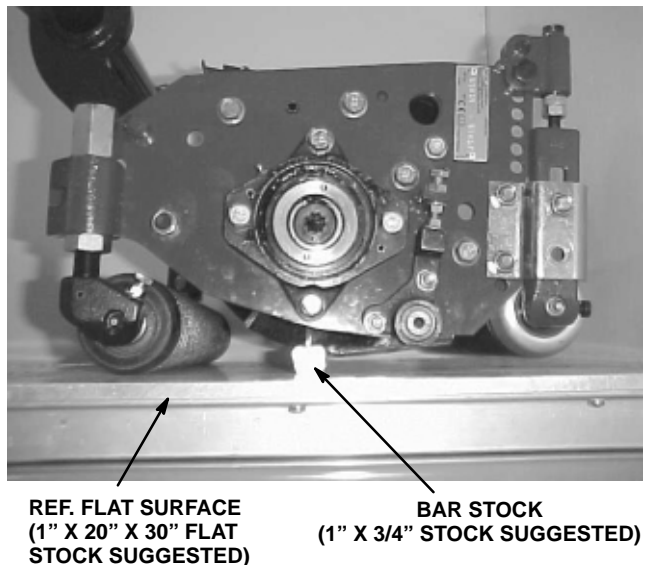

Figure 23
2. Position a 1/2" (13 mm) or thicker bar under the reel blades and against the cutting edge of the bedknife. **Make sure bar covers the full length of reel blades.** Rear roller should not contact surface (Fig. 23).
3. Rock cutting unit forward (on reel blades and steel bar) until front roller contacts flat surface. Reel blades and bedknife must maintain contact with bar (Fig. 23).